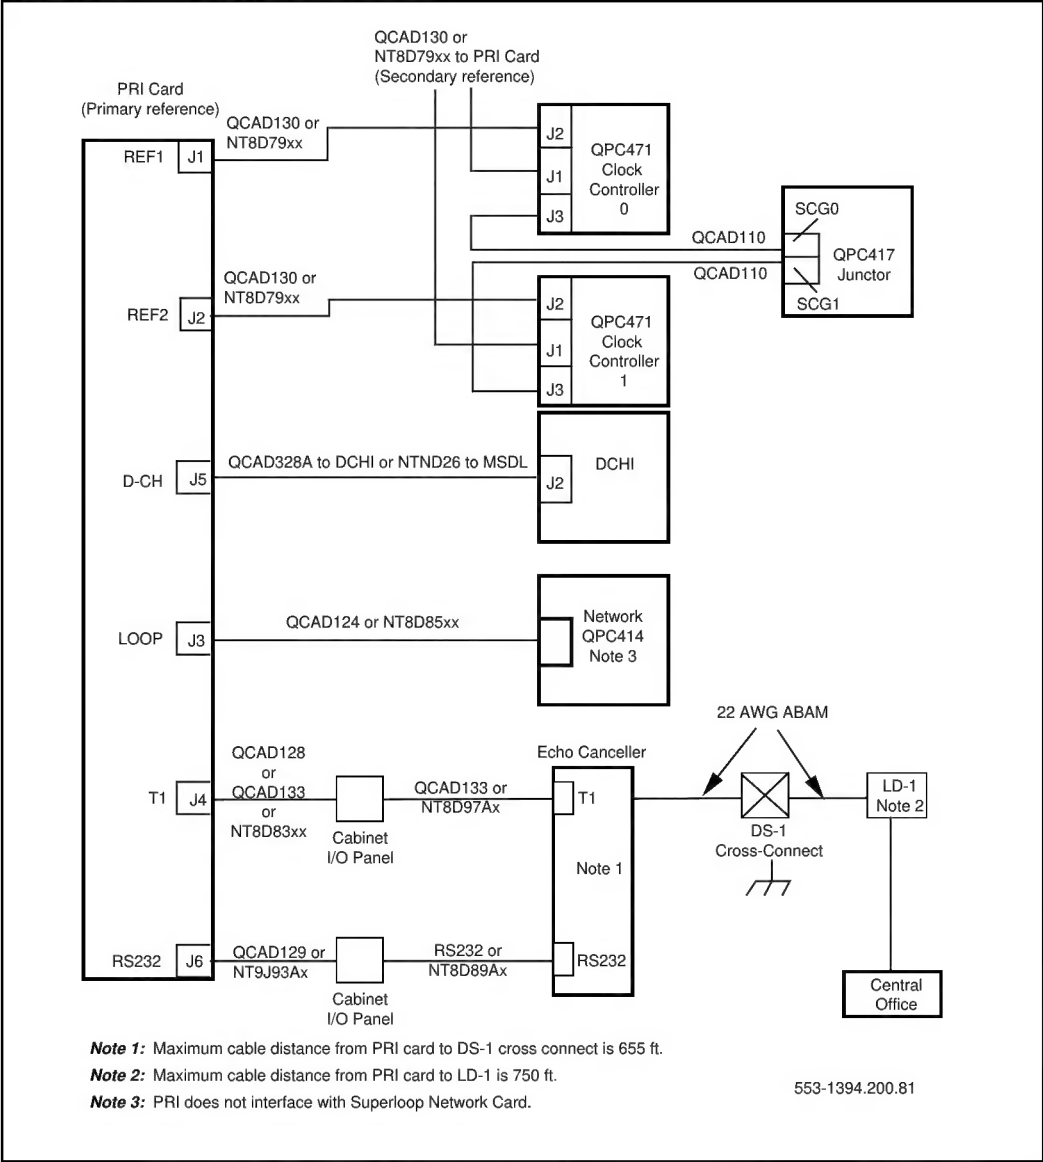

Figure 23
- 3 Set option switches on the PRI circuit card. (Figure 23 and Table 18.)